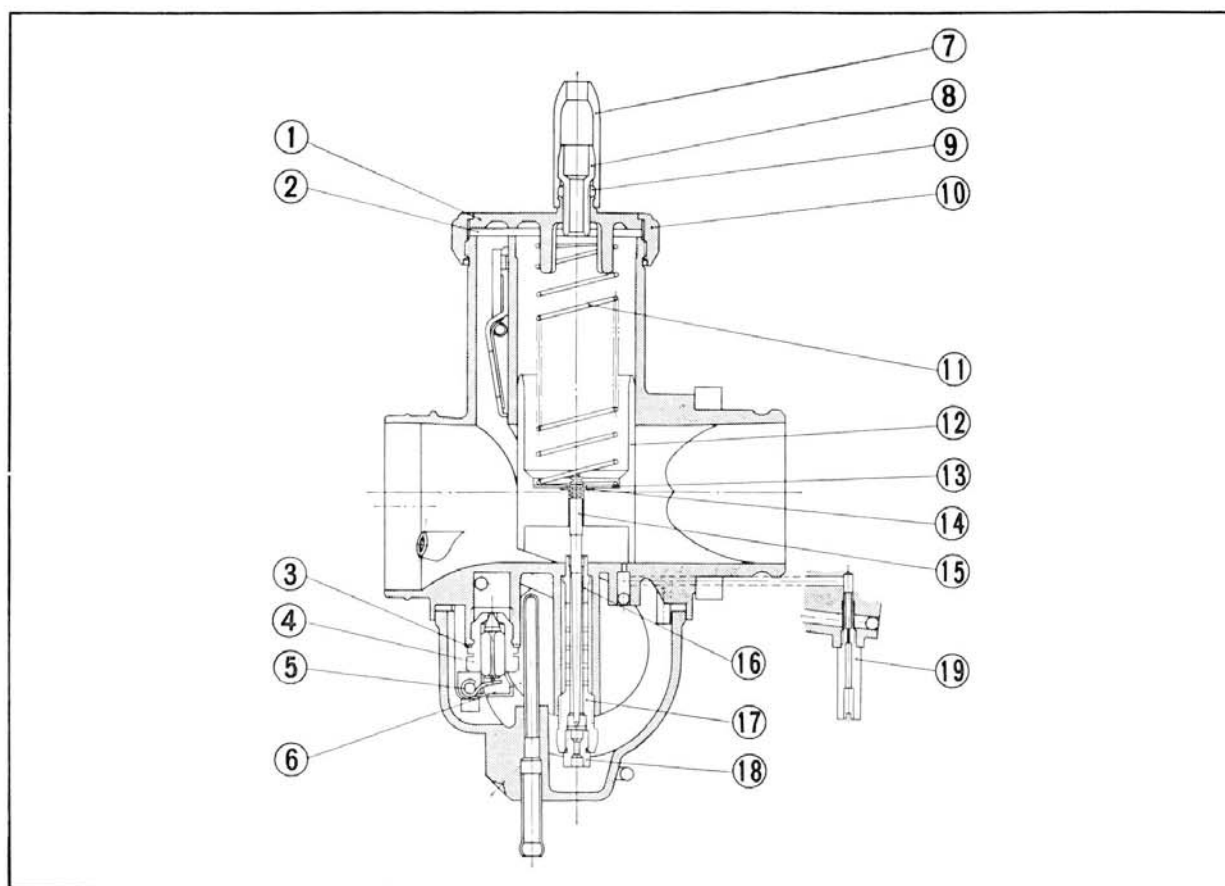

Fig. 6-1
Fig. 6-1 shows the construction details of the carburetor.
The carburetor must provide a proper mixture of fuel at different throttle openings and engine speeds; in order to accomplish this, the fuel level in the carburetor must be maintained constant. The float chamber functions to serve this purpose. The fuel from the tank enters the float chamber through the fuel inlet passage, between the float valve seat ④ and float valve and fills the chamber to the level where the float ⑤ rises to shut off the fuel by seating the float valve against the valve seat through the action of the float arm. As the fuel is consumed, the fuel level in the float chamber drops the float will follow the level, and the fuel will start to enter the chamber between the opening of the float valve and valve seat to maintain a constant fuel level. (Fig. 6-1)